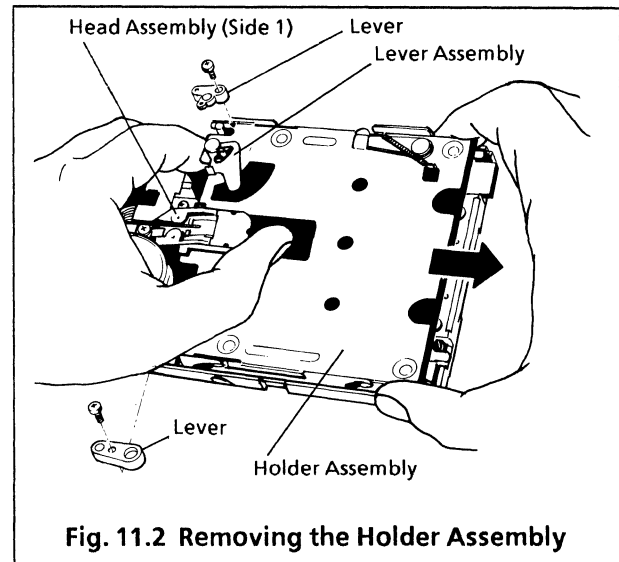

Fig. 11.2 Removing the Holder Assembly
- (1) Remove the front panel following the procedure in paragraph 11.1.
- (2) Remove each lever fastening screw and remove the two levers.
- (3) Lift the holder assembly by hand so that the edge of the holder assembly does not touch the lever assembly as shown in figure 11-2 and remove it by sliding it toward the front side. In this case, lift the side 1 of the head assembly by the thumb, otherwise it strikes side 0 due to the head retaining spring on the side 1 when it drops from the holder.
- (4) Remount it in the reverse order of the above.
- (5) Check the operation of the holder assembly after it has been remounted.
- (6) Operation check of the holder assembly